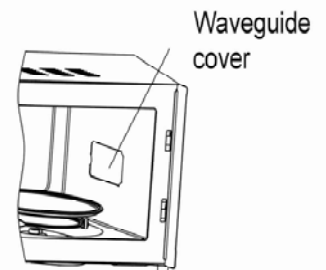

Fig.1
- 7) Wave guide cover (inside) **WARNING:** Never remove it during cleaning. See fig.1